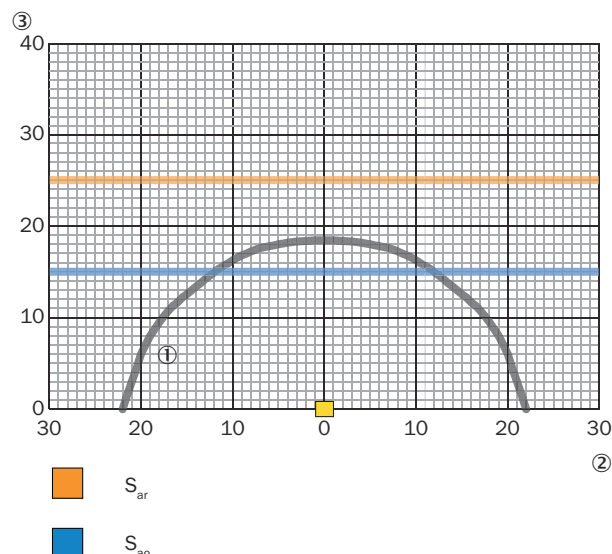

Figure 1: Response range
7. Align the sensor and actuator so that their front sides face each other at a switch-off distance of 15 mm or closer when the protective device is closed (see figure 1, page 10).